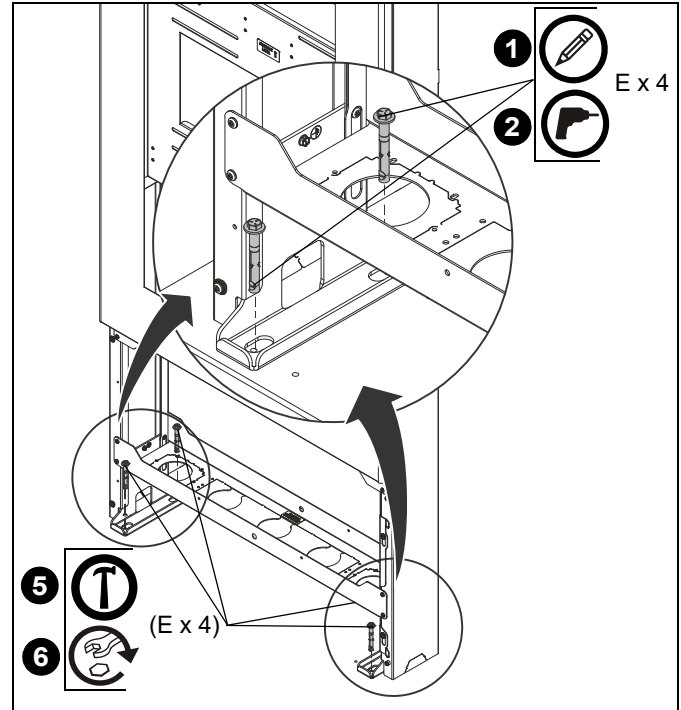

Figure 4
- Using kiosk (A) as a template, mark center of four mounting holes (the holes where kiosk was attached to pallet) and move kiosk to allow access to drill holes. (See Figure 4)
- Using a 3/8" drill bit, drill a hole 3-1/2" in depth at each marked location. (See Figure 4) and (See Figure 5)
- Use a hammer to drive anchors (E) through kiosk mounting holes into the drilled holes until the bolt head is firmly seated against the kiosk. (See Figure 4) and (See Figure 5)